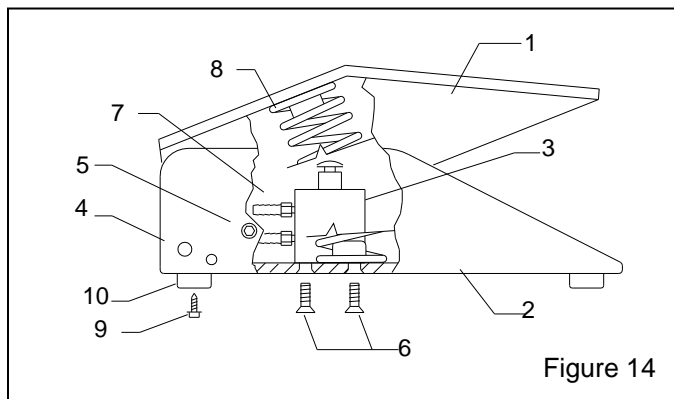

Figure 14
9.4 Foot Pedal Assembly, Figure 14